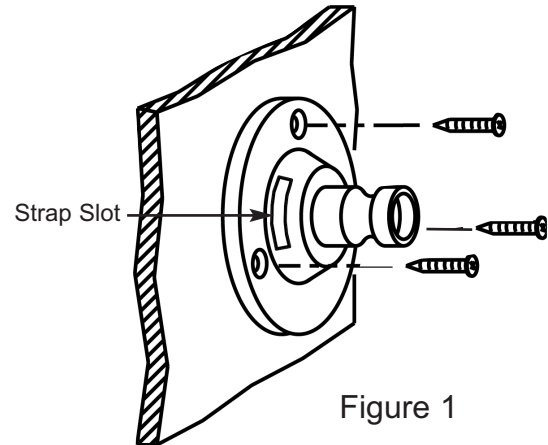

Figure 1
STEP 1 - For easier installation, remove the flange (base) from the speaker by unscrewing the wing nut while at the same time pressing inwardly on the wing nut. Place the flange flush with the mounting surface and mark the location of the three holes with either a marker or punch (see Figure 1). It is important that the three holes be exactly aligned with the flange, otherwise you might stress the base or make the connection unsteady. Insert 3 wall anchors - see diagrams on back for drilling instructions and use of anchors. (Use appropriate hardware for your specific mounting surface.)
Fold and insert anchor in hole (see Figure 1).